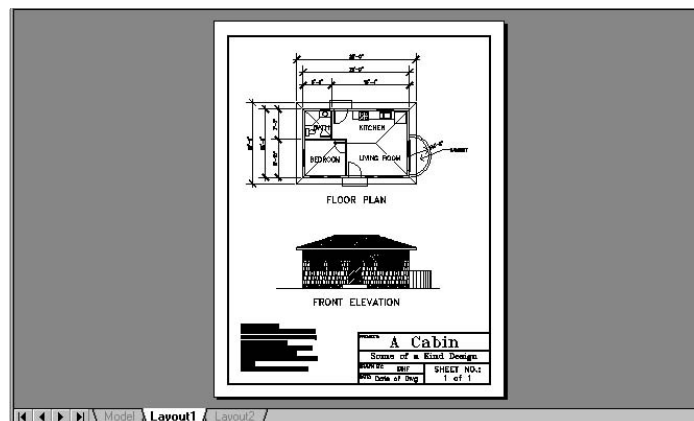

FIGURE 14.25: Preview with the monochrome.ctb plot style table assigned to Layout1
9. Click Preview in the lower-left corner. All lines and filled areas in the drawing are solid black (see Figure 14.25).